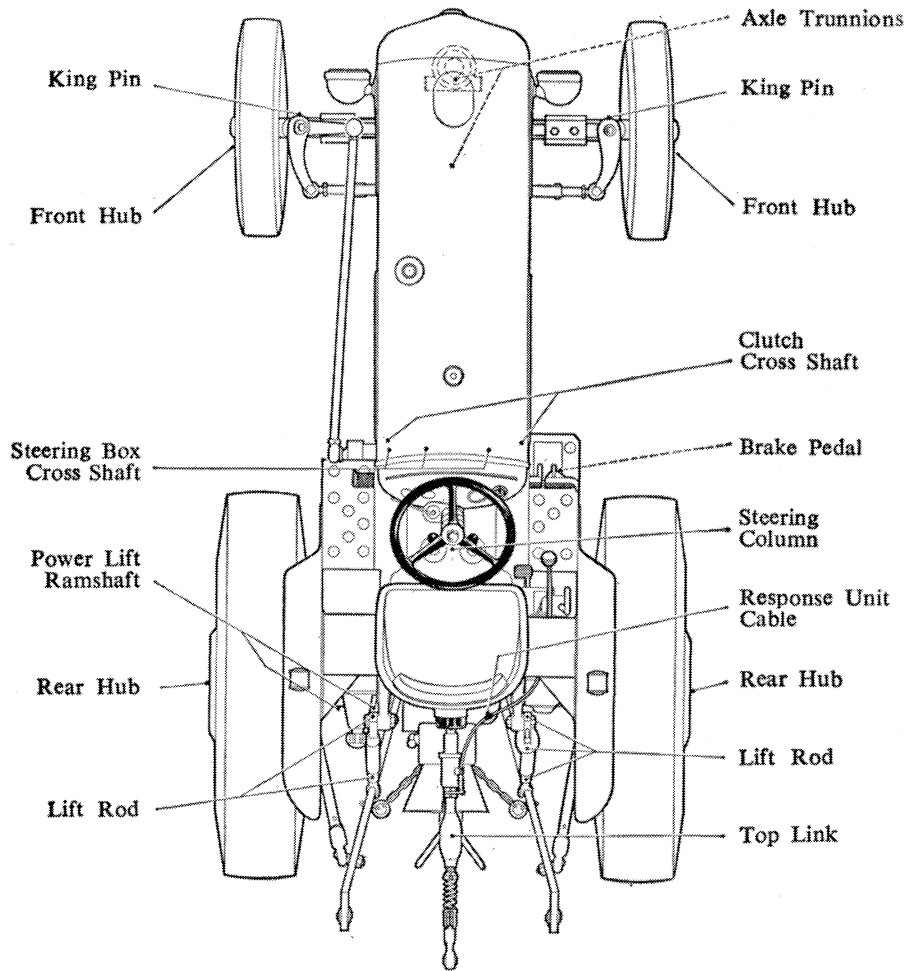

FIG. 1. Greasing Chart
5. **Greasing**—In dusty or wet and muddy conditions apply lubricant to the following points (see Fig. 1.). Clean the fittings before applying the gun.